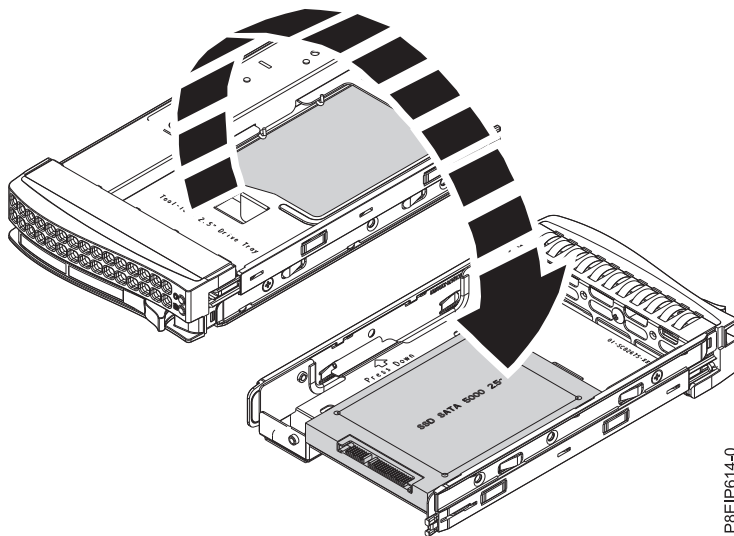

Figure 6. Turning the 2.5-inch tray upside-down
- a. Turn the tray upside down as shown in Figure 6.